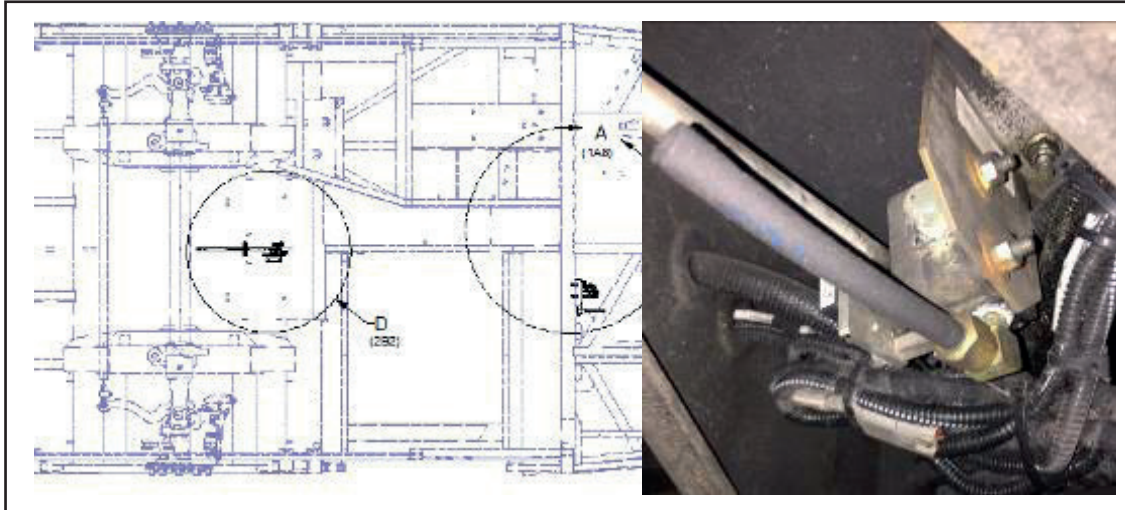

Figure 12 - Location of Center Front Leveling valve
- 1.25. Locate the center front leveling valve and remove the dust cover using a 10mm socket wrench (See Figure 12).